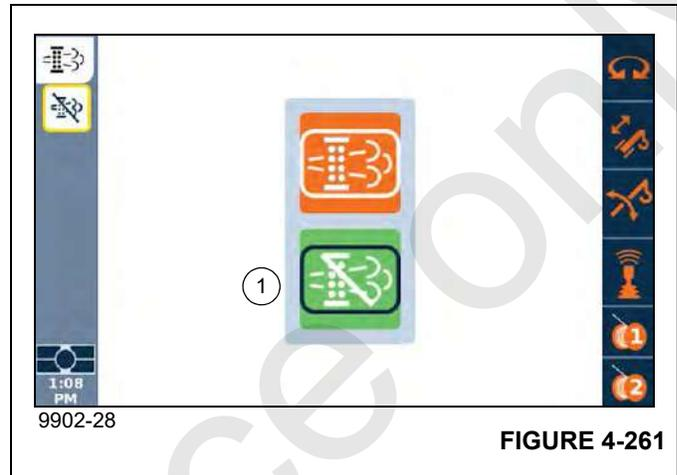

FIGURE 4-261
- Using the Jog Dial or the Up/Down Arrow Buttons on the Navigation Control Pad, select the Inhibit Cleaning Process Icon (1), (Figure 4-261) Icon changes to orange).